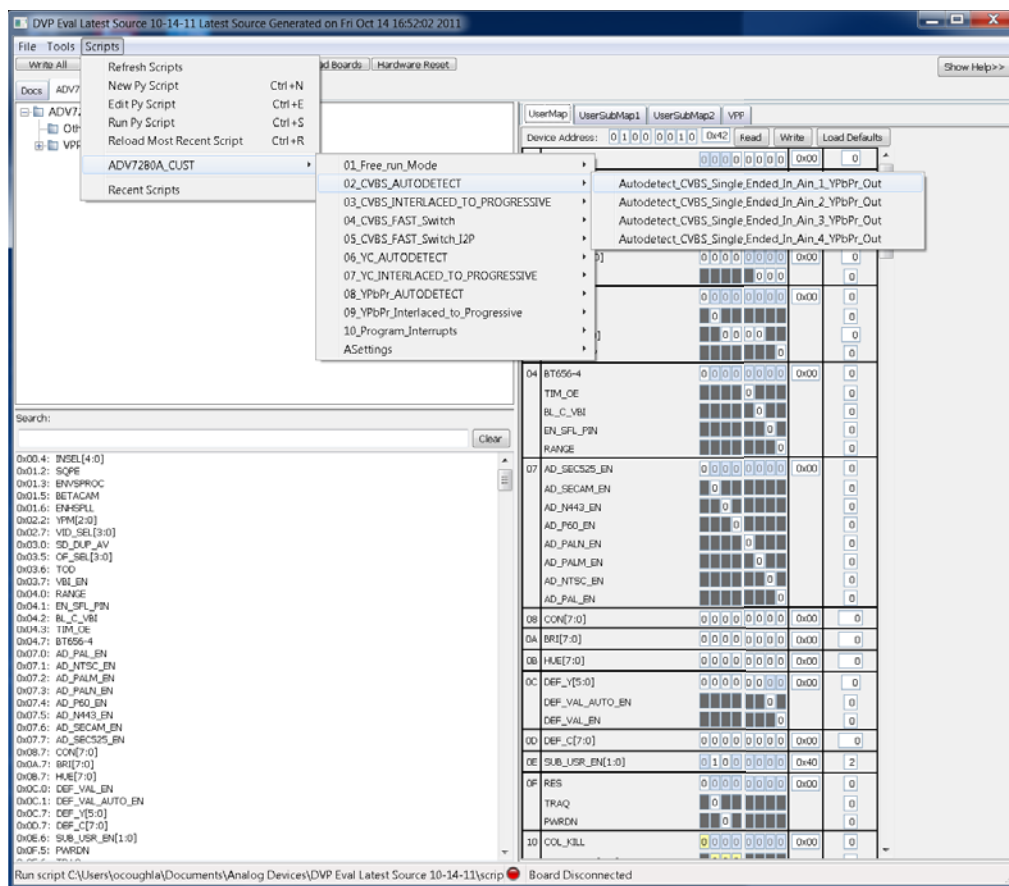

Figure 8. Running ADV7280A Script on DVP Eval Software
3. Click **Scripts > ADV7280A_CUST** to select and run a script to configure the evaluation board (see Figure 8).
4. To monitor the registers of the **ADV7280A** or the **ADV7391**, click the associated device tab within the **DVP Eval Software** (see Figure 8).